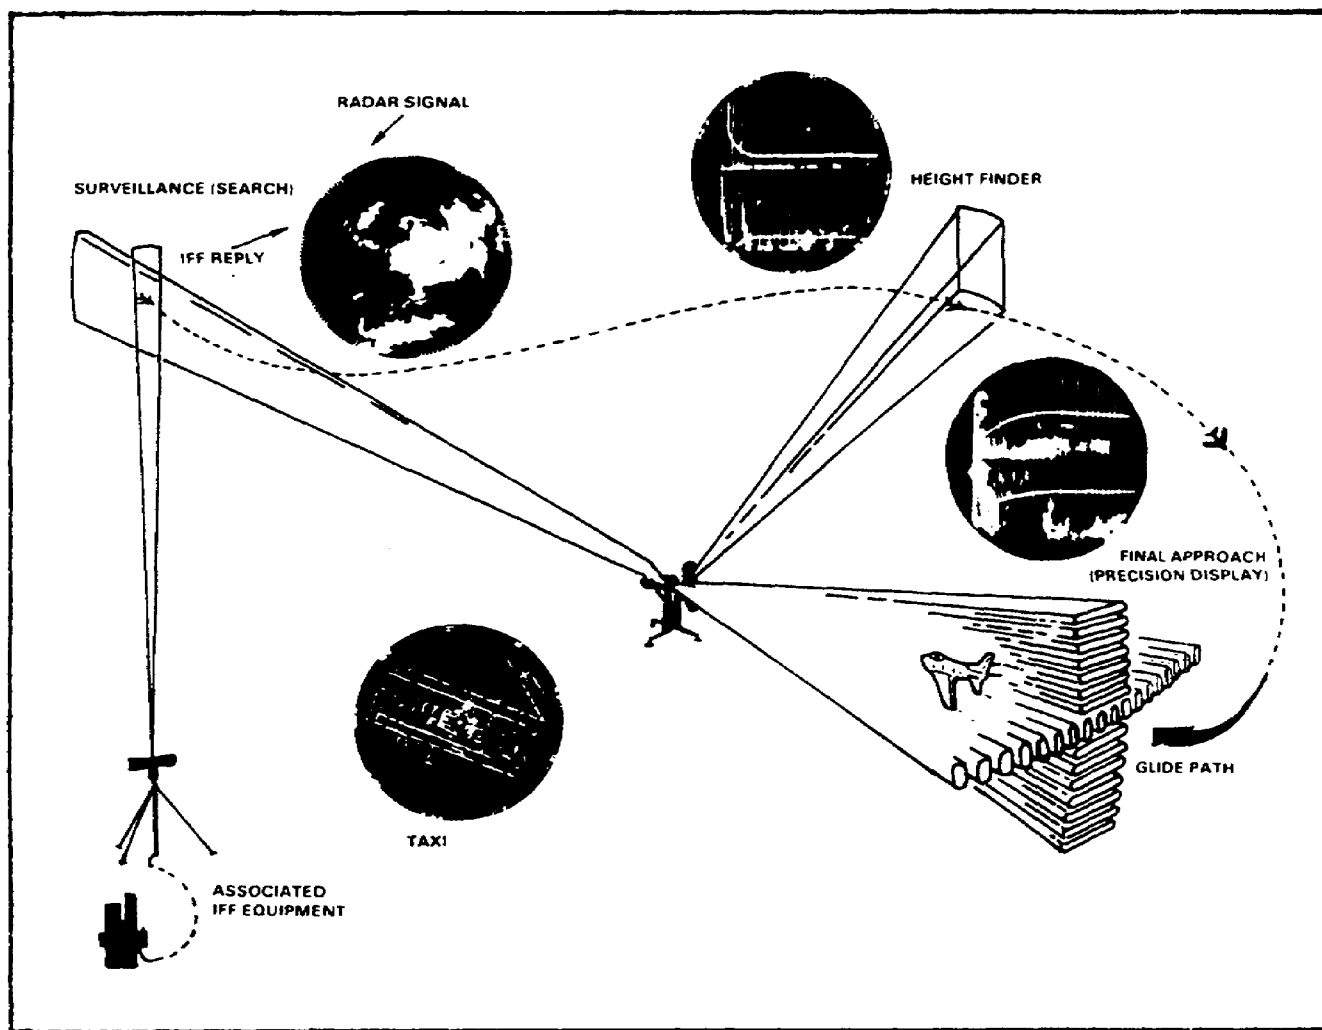

Figure 2. Functions of radar set AN/FPN-40.
3. The radar set AN/FPN-40 has four separate functions: Surveillance, height finder, final approach, and taxi. (See Figure 2.)